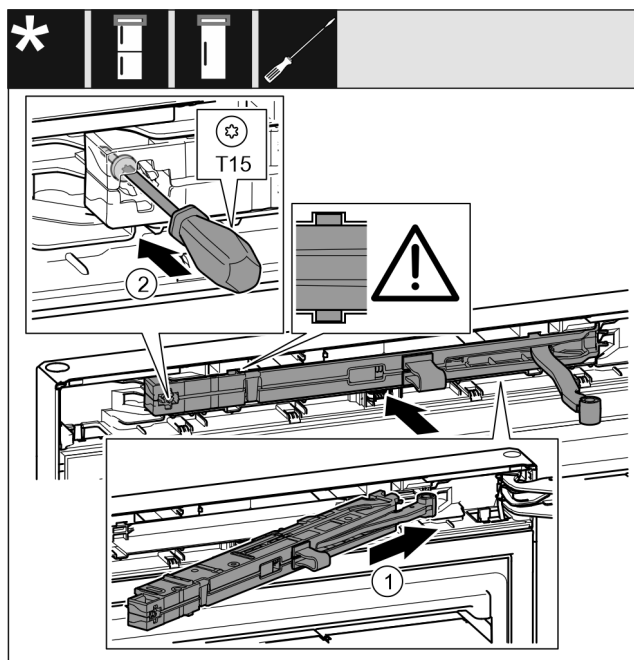

Fig. 23
- ▶ On the swap bearing block side, slide the closing damper unit Fig. 23 (1) into the recess at an angle up to the stop.
- ▶ Use a screwdriver to tighten the screw Fig. 23 (2).